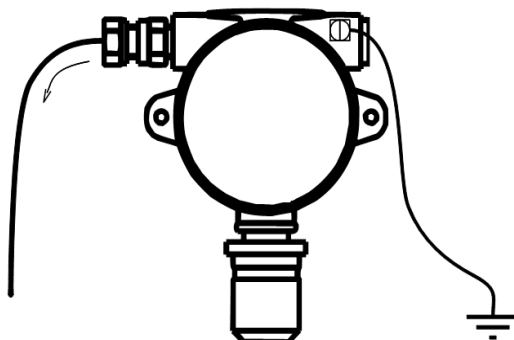

Figure 11: Grounding connection and correct cable laying
-  properly lay the cable so that it is not influenced by mechanical stress – see figure 11,
Ground the detector by connecting the cable (4 – 6 mm²) to the ground terminal (see figure 11).